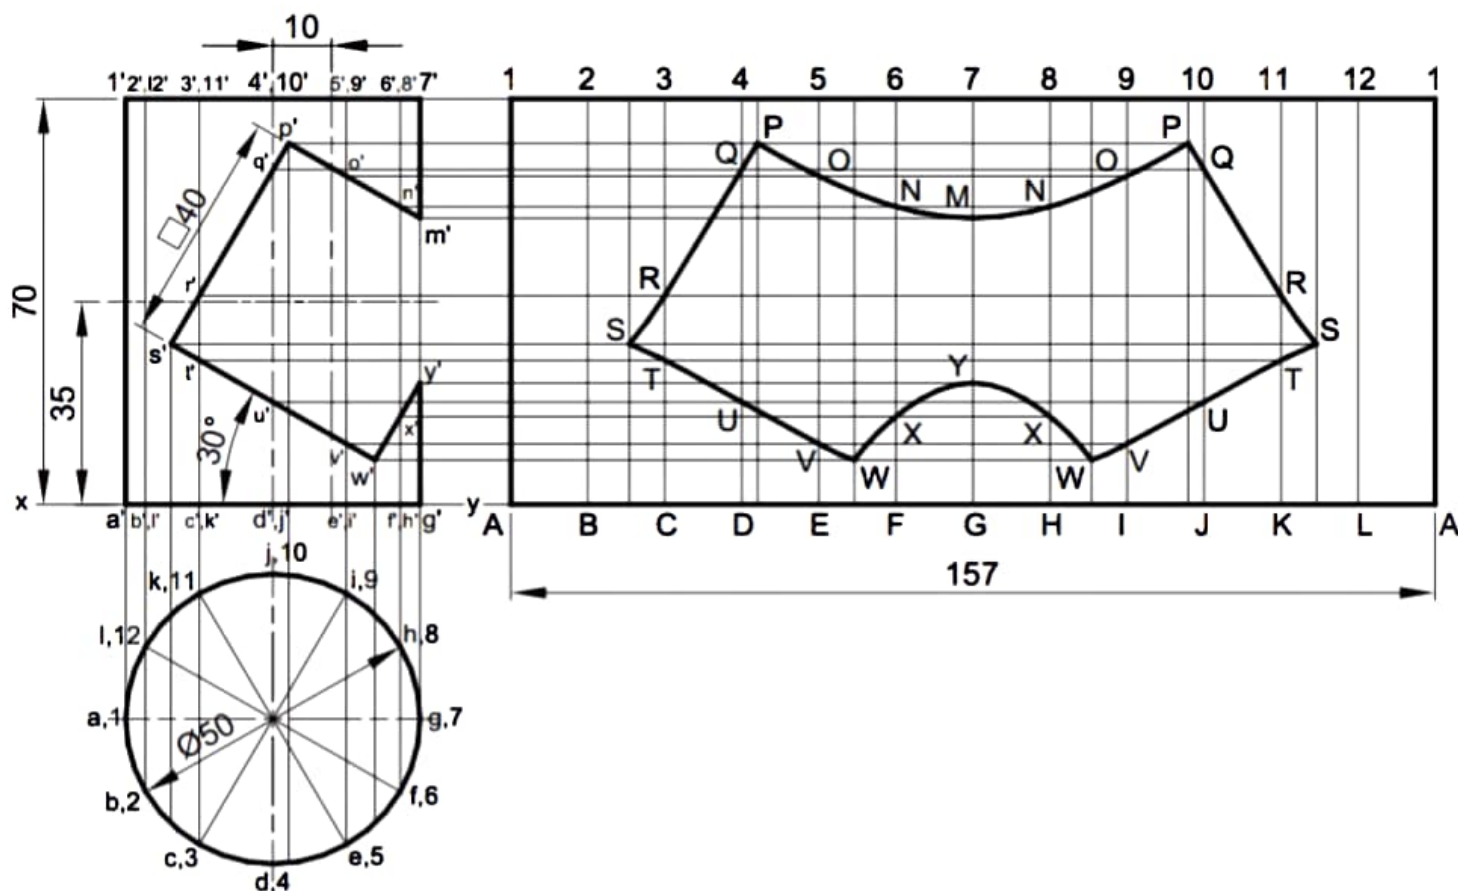

Fig. 13.11
Construction Refer to Fig. 13.11.
2. Draw a square of side 40 mm keeping $s'w'$ inclined at 30° to the horizontal as shown in Fig. 13.11. Name the point of intersection of generators with cutting plane as $m', n', o', q', r', t', u', v', x'$ and y' .